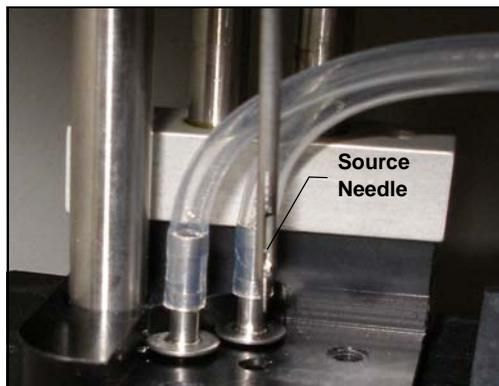

Figure 5-25. Removing the Source Needle from the Needle Block
7. Lift up the source needle to remove it from the needle block (see Figure 5-25).